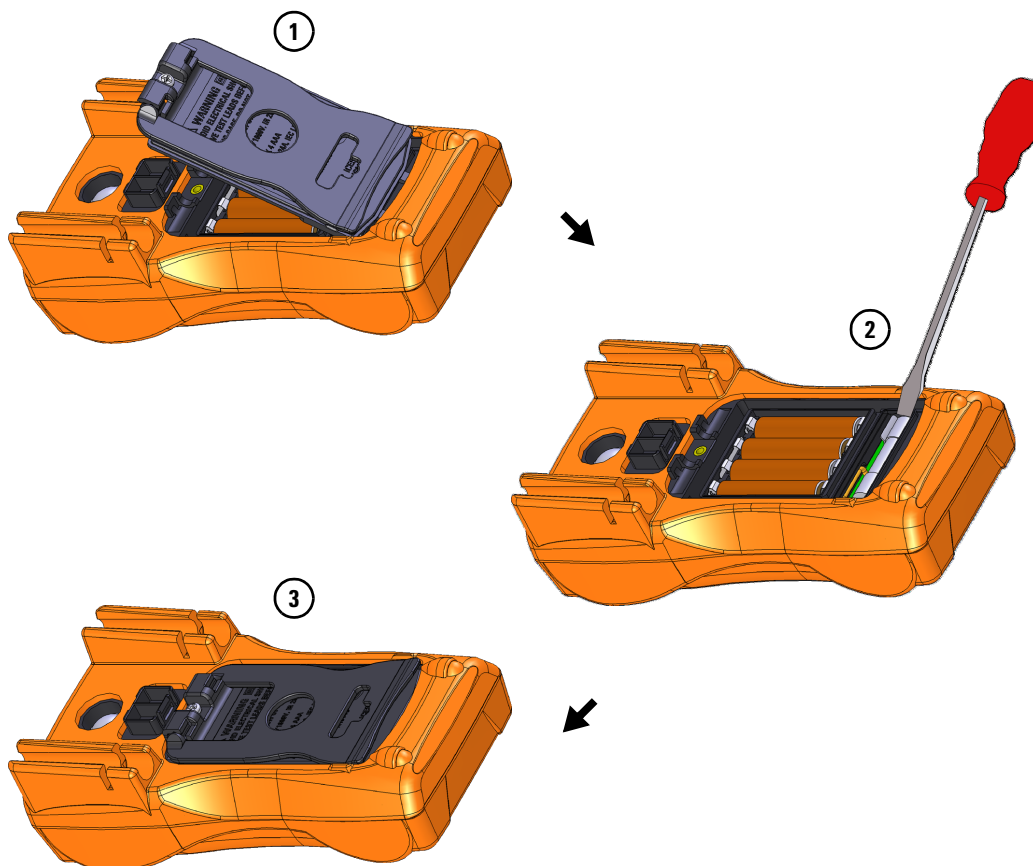

Figure 2-2 Replacing the fuse
- 2 Locate the faulty fuse.** The fuse is located at the bottom of the batteries (see **Figure 2-2**).